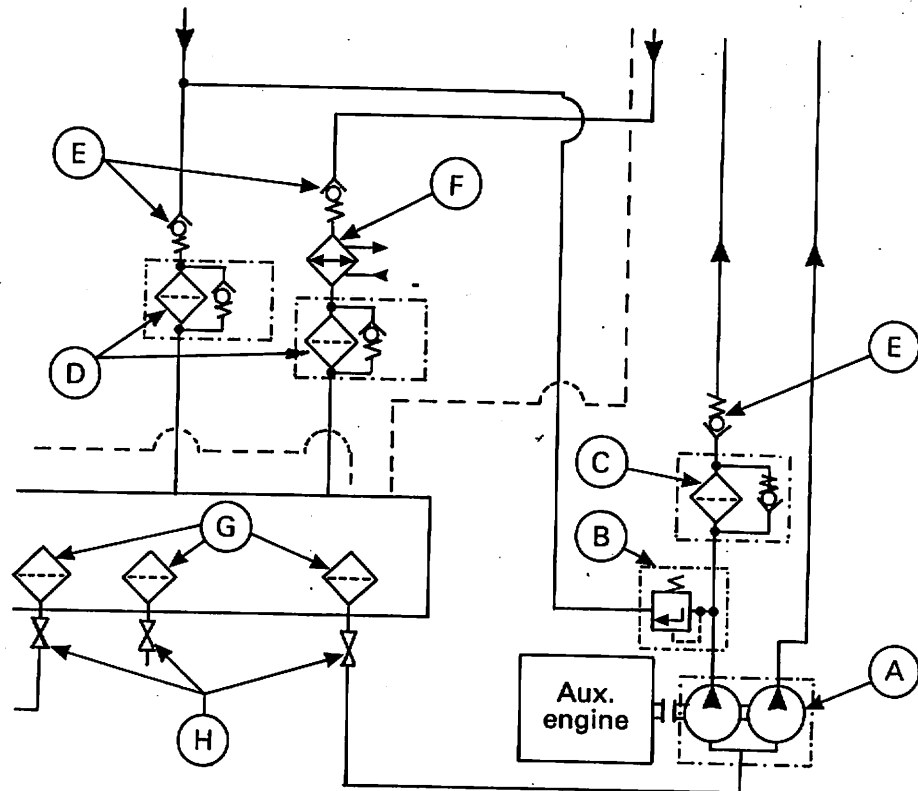

Figure 54.
Figure 54 shows another part of a hydraulic system diagram with two pumps driven by an auxiliary engine.
First, identify each of the items in Figure 54 and then attempt the following SAQ. (Remember to first use a soft pencil and after you have checked your answer go over it with colour).
② SAQ6
Using the information given in Figure 54 trace the oil flow when excessive pressure occurs in the supply line (P) and the return line filters are choked.